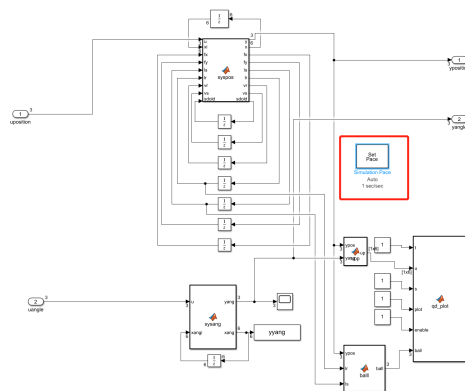

Fig. 12. Set pace block.
- Double click the Quadrotor Dynamics block (Fig. 12), You can see the set pace block; it set the simulation block to make the animations smooth. You can delete this block for both the plant and MPC controller models to achieve better control performance.